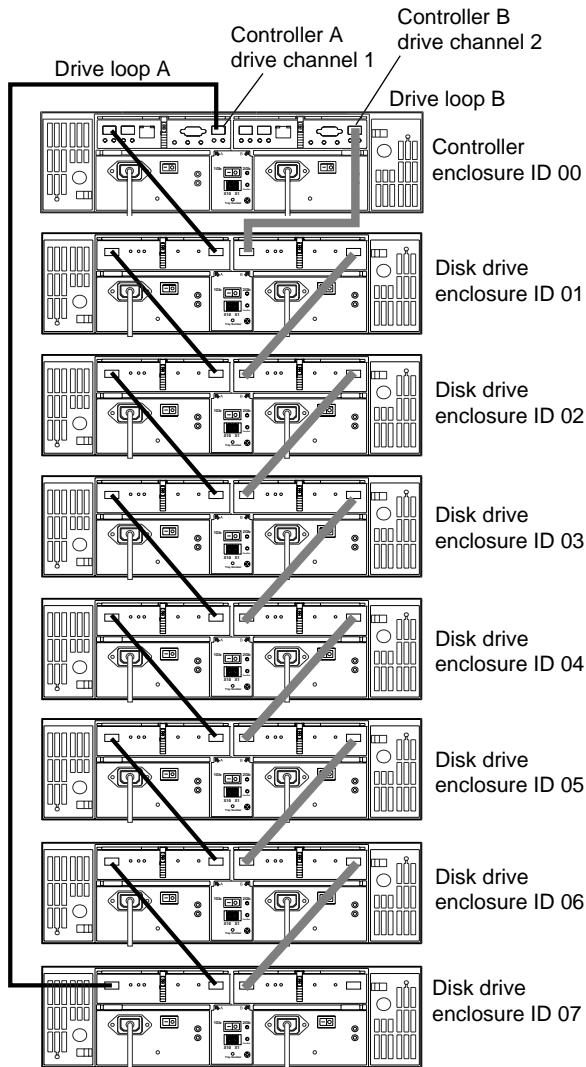
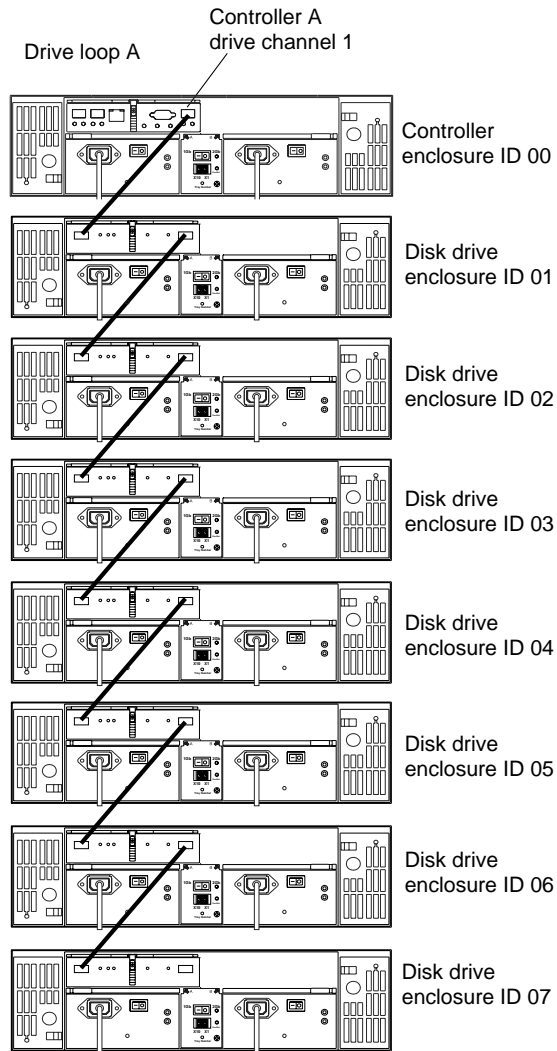

Figure 4-9 Adding New Expansion Enclosures to an Existing Array
Figure 4-10 Single-Controller Expansion Example
2. Using Figure 4-9 as a guide, connect the cables from the controller enclosure to the new expansion enclosure(s). Then, if applicable, connect the cables from the existing expansion enclosure(s) to the new expansion enclosure(s). See Figure 4-10 on page 67 for an example of a single controller storage array connection.